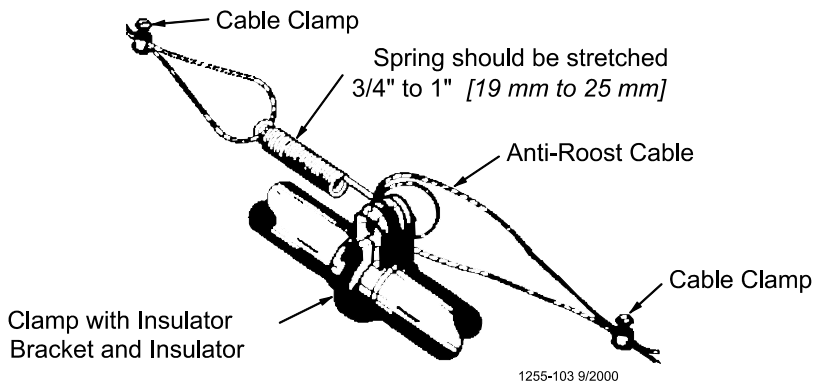

Figure 75. Anti-Roost Cable Mid-Line Connection
4. Attach a spring in the center groove at the second anti-roost bracket and cut the cable at this point. See **Figure 75**.
5. Thread the ends of the cable through the end of the spring. Pull the cable tight so that there is 3/4" to 1" [20 to 25 mm] of stretch in the spring. Clamp the cable to form a loop and cut off any excess. See **Figure 75**.
6. Attach the cable to the insulator. For best results, make a double loop around the anti-roost insulator in the center groove of the insulator and fasten with a 1/16" cable clamp as shown in **Figure 75**.